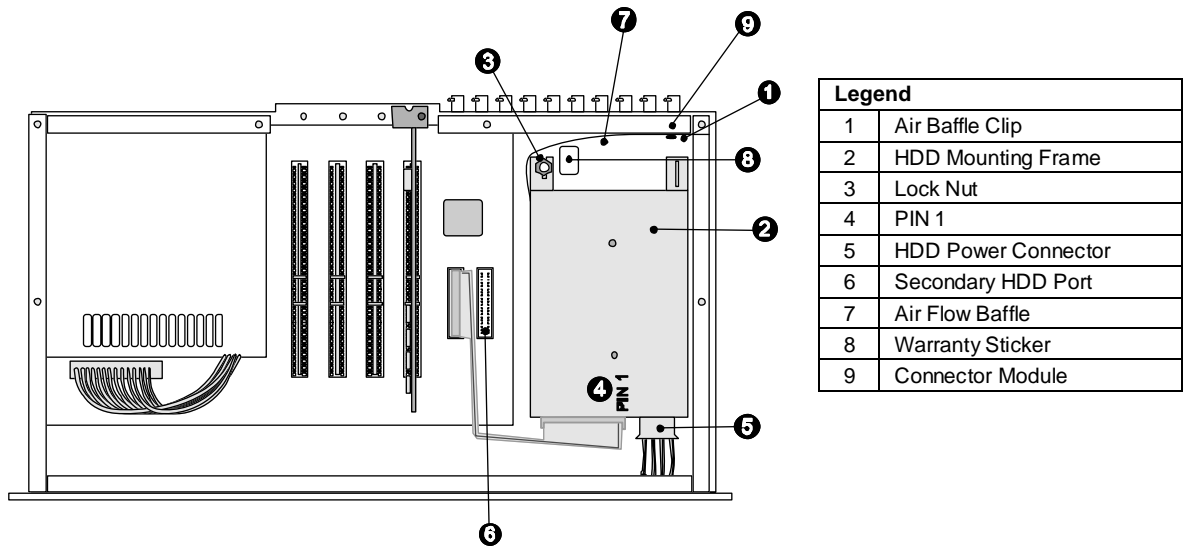

Figure 1 – Top view of chassis
13. Replace the HDD mounting frame (2) and airflow baffle (7). Replace the lock nut (3) and tighten until firm. Plug power connectors into all HDDs.
15. Place new warranty sticker (8) over the HDD mounting frame and chassis.
16. Clip the airflow baffle in place at point (1) (refer to Figure 1).